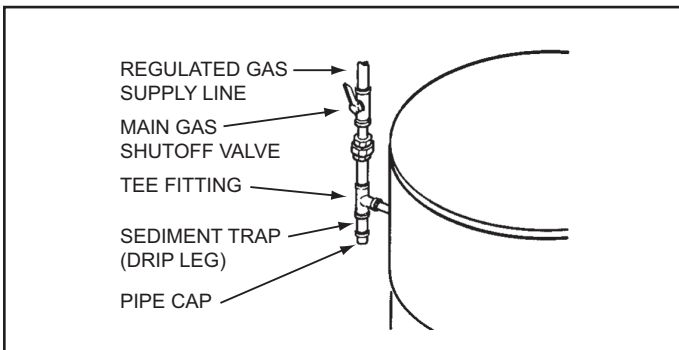

Figure 48
Ensure all gas pipe is clean on the inside before installation. To trap any dirt or foreign material in the gas supply line a sediment trap (drip leg) must be installed as shown in Figure 48. The sediment trap must be readily accessible and not subject to freezing conditions. Install in accordance with the recommendations of the local gas utility company.
7. Install a sediment trap (drip leg) as shown in Figure 48 on page 37.
8. Install a Main Gas Shutoff valve in the supply gas line as shown in Figure 48 on page 37.
1. For test pressures exceeding 1/2 psi (3.45 kPa) disconnect the water heater and its Main Gas Shutoff Valve from the gas supply piping system during testing, see Figure 48 on page 37. The gas supply line must be capped when disconnected from the water heater.